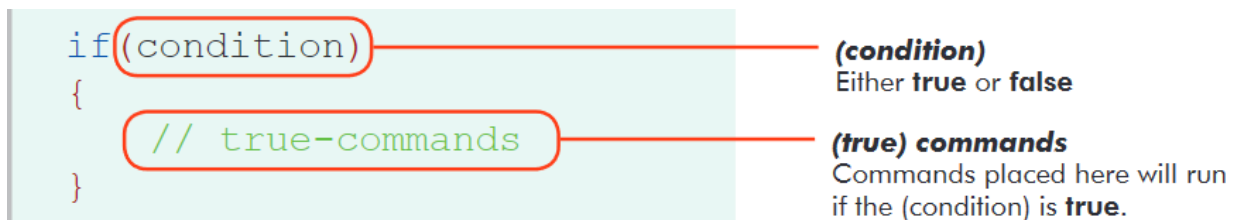
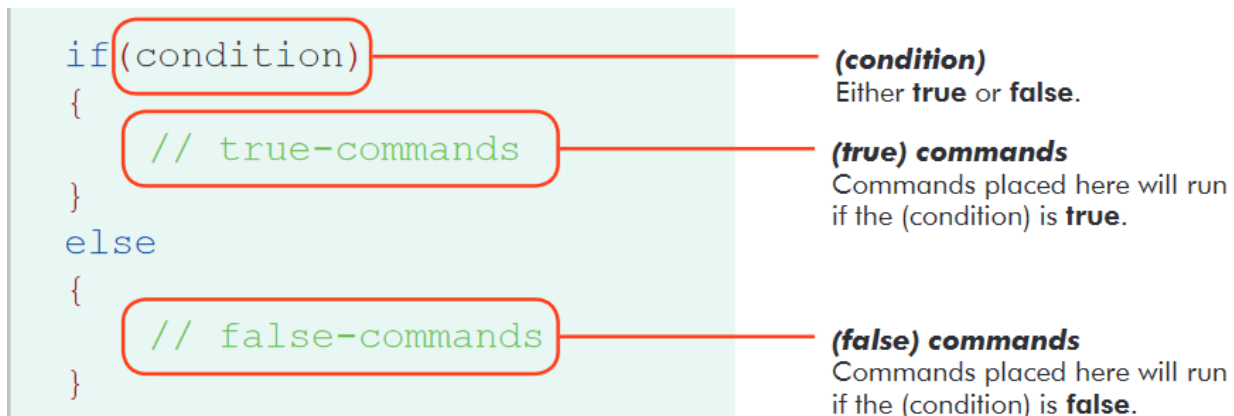

Figure 2. Pseudocode of an *if* statement.
Figure 3. Pseudocode of an *if-else* statement.
2. Once the sensor value is known, a decision can be made using a conditional statement in the programming environment. For example, if the touch sensor value is 1, then turn-on the motor. Figure 2 and Figure 3 depict the pseudocode of the popular conditional statements: *if* and *if-else*.